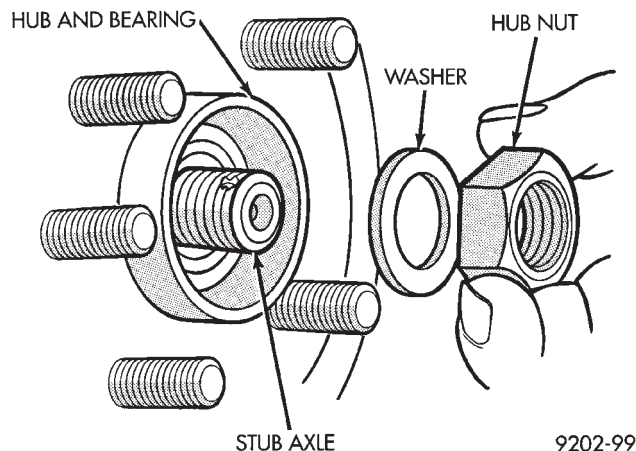

Fig. 75 Front Stub Axle Nut And Washer
(12) Clean all foreign matter from the threads of the outer C/V joint stub axle. Install the washer and hub nut (Fig. 75) onto the stub axle and tighten nut.